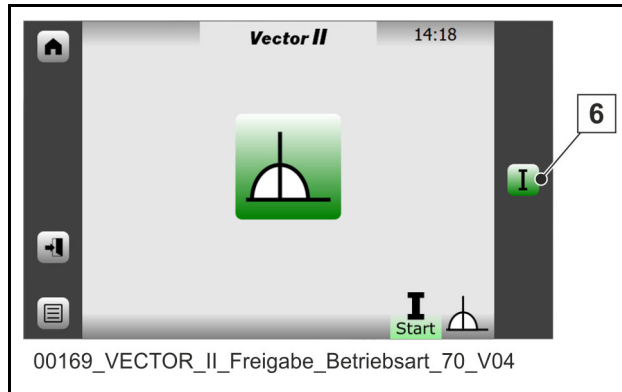

Fig. 87 Release operating mode: Local
- After the selection, release “LOCAL” operating mode by actuating the button (6) (Fig. 87).